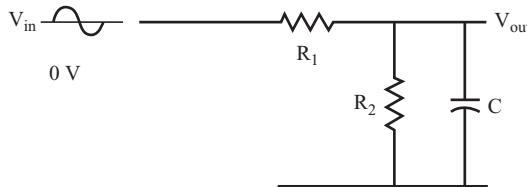

FIGURE 12.7
- 43.** Using the circuit shown in Figure 12.7, find X_C , AC V_{out} , and DC V_{out} , if $V_{in} = 1 V_{pp}$ AC, riding on a 5-volt DC level; $f = 10 \text{ kHz}$; $R_1 = 10 \text{ k}\Omega$; $R_2 = 10 \text{ k}\Omega$; and $C = 0.2 \mu\text{F}$. _____
- 44.** Again, using the circuit shown in Figure 12.7, find X_C , AC V_{out} , and DC V_{out} , if $V_{in} = 0.5 V_{pp}$ AC, riding on a 10-volt DC level; $f = 120 \text{ Hz}$; $R_1 = 80 \text{ ohms}$; $R_2 = 20 \text{ ohms}$; and $C = 1000 \mu\text{F}$. _____